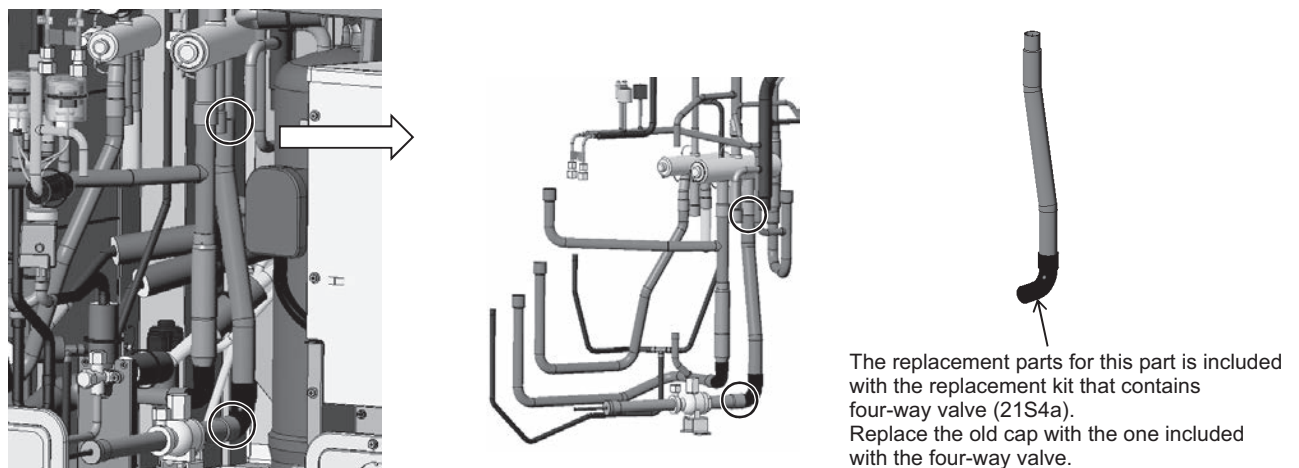

Figure 13
- (13A) Remove the pipe below four-way valve (21S4a) and on the back by removing the braze at the two areas on the bottom of the pipe shown in Figure 13. Then, remove the braze at the areas on the top of the pipe.